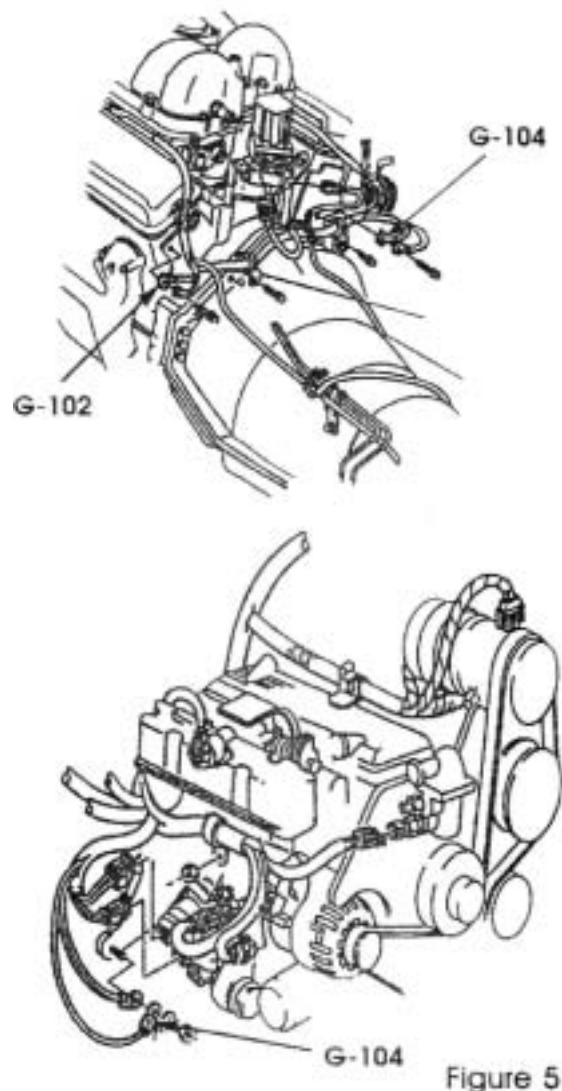

Figure 5
- Ground G-104 or G-102 loose or corroded (figure 5). (G-104, G-102 are located at the rear of the cylinder head on 4.3L applications, and on the passenger side, at the lower corner of the bellhousing on 2.2L applications).